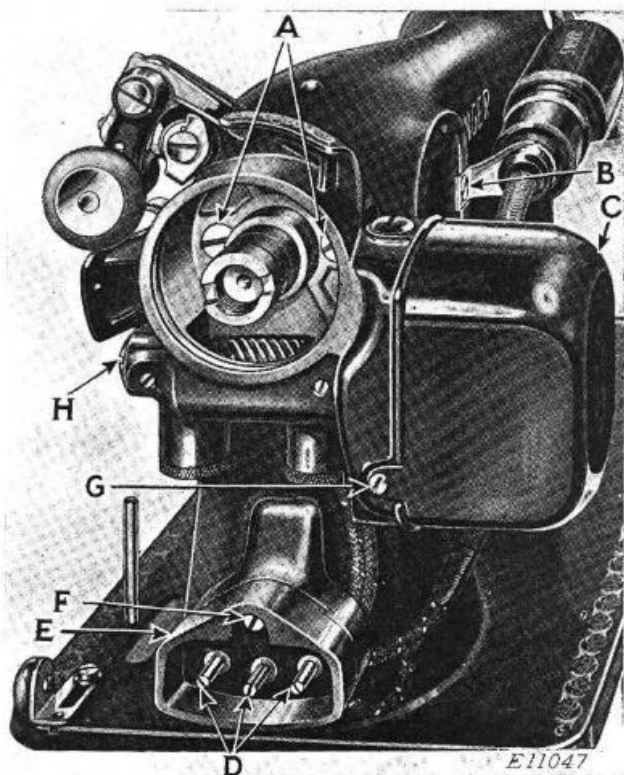
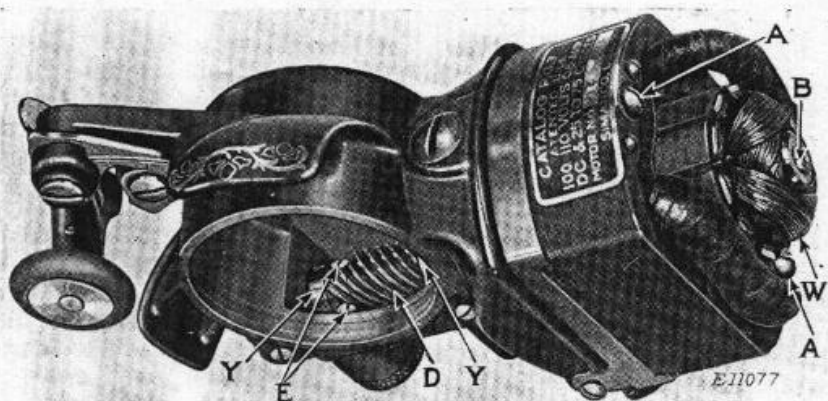
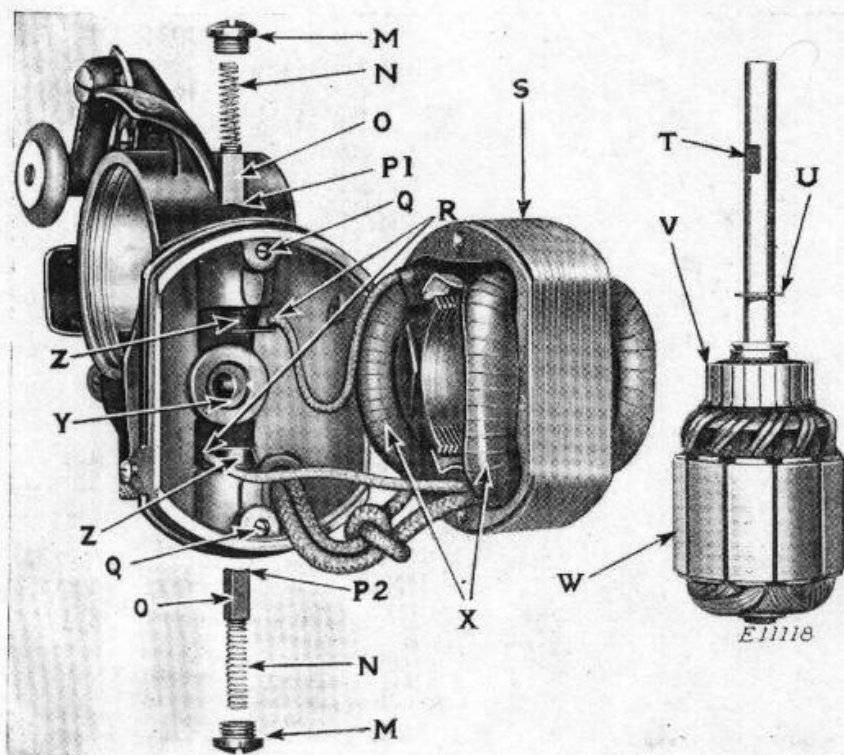

FIG. 12. MACHINE AND MOTOR
FIG. 13. MOTOR WITH COVER REMOVED
FIG. 14. MOTOR DISASSEMBLED
Take out screw (F, Fig. 12) and remove the three-pin terminal (E) from the terminal bracket.
Remove Motor Cover. Loosen the two screws, one of which is shown at (G, Fig. 12) and remove motor cover (C, Fig. 12) by pulling, and at the same time, rocking it up and down slightly, being careful to prevent inside of cover damaging the field coils.
Remove Brushes. Take out screw caps (M, Fig. 14). When screw caps are removed, the brush springs may protrude from the screw holes, and brushes can then easily be withdrawn. However, should difficulty be experienced in removing the brushes, this can be done conveniently after removal of the armature in accordance with "Remove Armature" following. It is advisable to mark the brushes at (P1 and P2, Fig. 14) to make sure that they will be replaced in the same relative position as before removal.
Remove Armature. Remove the brushes in accordance with preceding paragraph. Loosen the two set screws (E, Fig. 13) in
the spiral gear (D, Fig. 13) so that the armature shaft can be withdrawn from its bearings. Remove the armature (W, Fig. 13).
If wiring is not damaged, clean commutator (V, Fig. 14) with a dry, clean cloth before assembling motor. If it is impossible to get the commutator bright by this means, use an ordinary rubber eraser. **Never use anything else on a small motor commutator.**
Remove the Field Core with Coils—Loosen the two screws (A, Fig. 13) and remove the field core (S, Fig. 14) from the commutator end cover which, in this case, is part of the motor frame. The removal of the field core must be done carefully to prevent damage to the field coil insulation, and to prevent strain at the soldered brush tube connections (R, Fig. 14).
Clean Brushes and Brush Tubes. Thoroughly clean the carbon brushes (O, Fig. 14), inner walls of brush tubes and inside of end covers, with a dry, clean cloth.
Inspect Wire Connections to Brush Tubes. Examine both field wire connections (R, Fig. 14) at the brush tubes. If broken, these connections should be securely soldered to the lugs of the brush tubes. Any loose strands of wire should be cut off.
Remove and Replace Brush Tubes. After the brushes and brush tubes have been cleaned, the brushes should slide freely in the brush tubes. If they do not, the brush tubes should be replaced by new ones. The new brush tubes must be replaced in the same manner as the old tubes, viz., firmly positioned in the insulating bushings (Z, Fig. 14), and with the field leads properly soldered to the lugs of the new tubes, as shown by (R, Fig. 14).
Remove and Replace Insulating Bushings. If the threads in the insulating bushings (Z, Fig. 14) and on screw caps (M, Fig. 14) become stripped, these parts should be replaced by new ones. When these bushings require replacement, the brush tubes also should be replaced with new ones. Do not attempt to use the old brush tubes in the new bushings. Loosen the two screws at (Q, Fig. 14) to release the bushings (Z, Fig. 14). When the new bushings are in place, tighten the screws (Q, Fig. 14).
Replace Field Core with Coils. After the insulating bushings are replaced; the field coil wires properly soldered to the brush tubes as shown at (R, Fig. 14) and brush tubes in place in insulating bushings (Z, Fig. 14), put field core (S, Fig. 14) in place on commutator end cover, being careful not to damage field coil insulation. When the field core is properly seated on commutator end cover, insert and tighten screws (A, Fig. 13).
Put the spiral gear in position between the two bronze shaft bearings (Y, Fig. 13), having the two set screws (E, Fig. 13) toward the cap screw (H, Fig. 12) in order that one of the two screws (E) can engage the "flat" (T) on the armature shaft. Insert armature (W) so that the fibre washer (U) is against the first of the two shaft bearings (Y, Fig. 14).
When armature shaft is in place in its bearings and through spiral gear (D, Fig. 13), the "flat" (T), against which one of the two set screws (E, Fig. 13) is to be tightened, is covered. Its position is, however, indicated by the "flat" at (B, Fig. 13) at the cover end of the shaft. Be sure that one of the two screws (E, Fig. 13) engages the "flat" (T), then tighten both screws (E).
Replace Brushes. When inserting the brushes in the brush tubes, make sure that their concave ends (P1 and P2, Fig. 14) correspond with the convex surface of the commutator, and that they are replaced in the same relative position as before removal. See "Remove Brushes," page 16. Hold end of brush spring and tap the brush against the commutator until contact is clearly heard. Then insert and tighten the two screw caps (M, Fig. 14), being careful not to strip the threads.
Place motor frame, with motor assembled, on its seat on the machine arm, and insert and tighten the two screws (A, Fig. 12). Attach three-pin terminal to its bracket by inserting and tightening screw (F, Fig. 12). Attach Singerlight to machine arm by inserting and tightening screw (B, Fig. 12). Replace arm side cover. Replace the balance wheel as instructed on page 21.